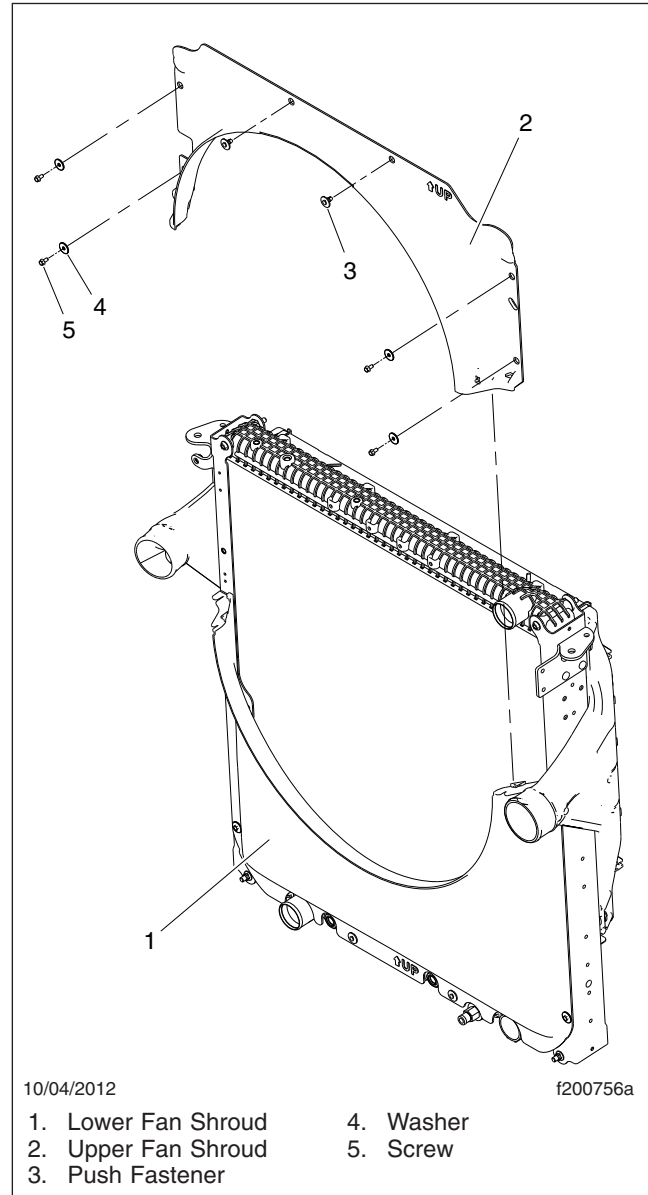

Fig. 11, Fan Shroud Installation
13. Remove the upper fan shroud. See Fig. 11.
19. Remove the lower fan shroud from the radiator. See Fig. 11.
27. Install the fan shroud on the new radiator. See Fig. 11.